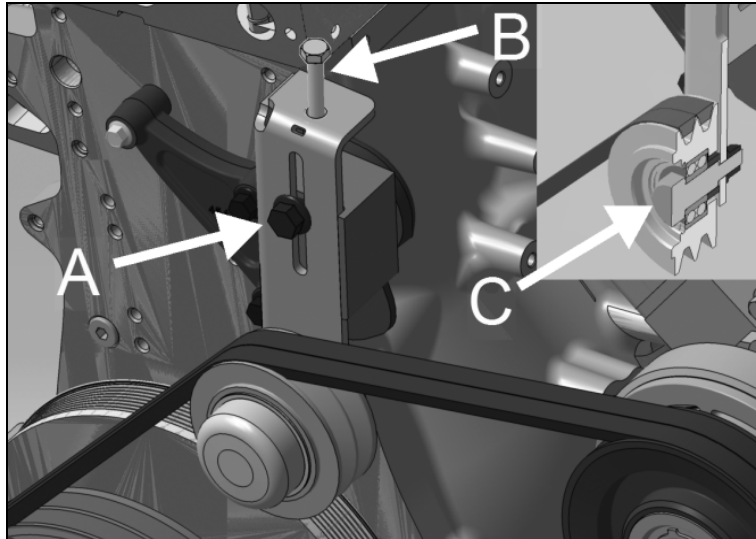

FIG.2 A/C BELT TENSIONER
2. Release belt tension from the two A/C V-belts by loosening the A/C belt tensioner (Fig.2)
- Slightly loosen tensioner locking bolt (A) to allow up and down movement.
- Unscrew the tensioner adjusting bolt (B) to remove tension applied to the belts.
5. Unscrew the A/C idler pulley center retaining bolt (C) and remove the idler pulley (Fig.2).